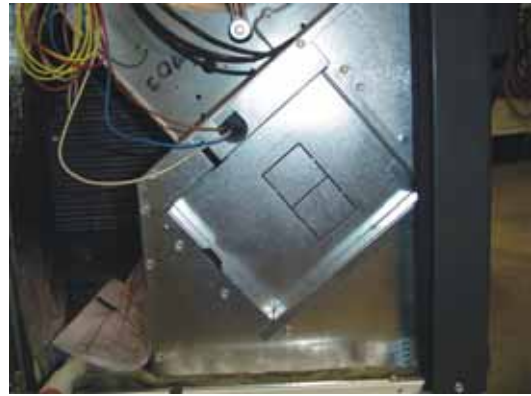

Figure 12
4. Locate heater box. Remove the two screws holding the heater box cover in place (Figure 12).